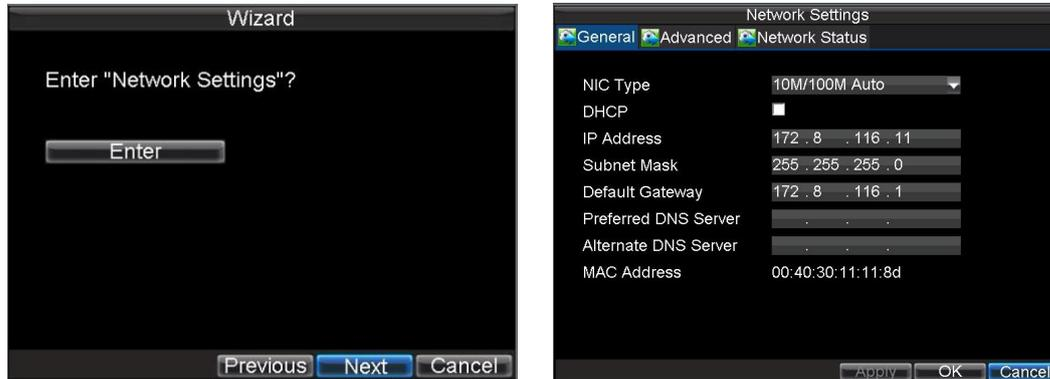

Figure 8. Network Settings
15. Click **Next** button to access the **Network Settings** dialog box, shown in Figure 8.